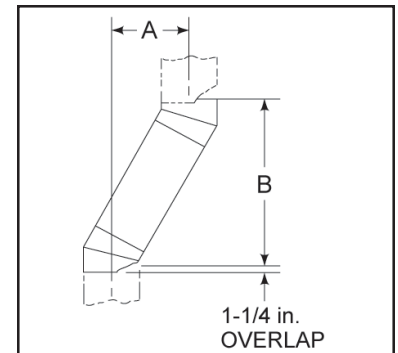

Figure 7 - Chimney Offset/Return
- 1) Measure how far the chimney needs to be shifted to enable it to avoid the overhead obstacle. See Figure 7, dimension "A" to determine chimney sections required to achieve the needed shift.
**Example:** Your "A" dimension from Figure 7 is 14½". Using Table 1 the dimension "A" closest to, but not less than 14½" is 145/8" using a 30° offset/return. It is then determined from the table that you would need 33" (Dimension "B") between the offset and return. The chimney components that best fit your application are two SL312s.